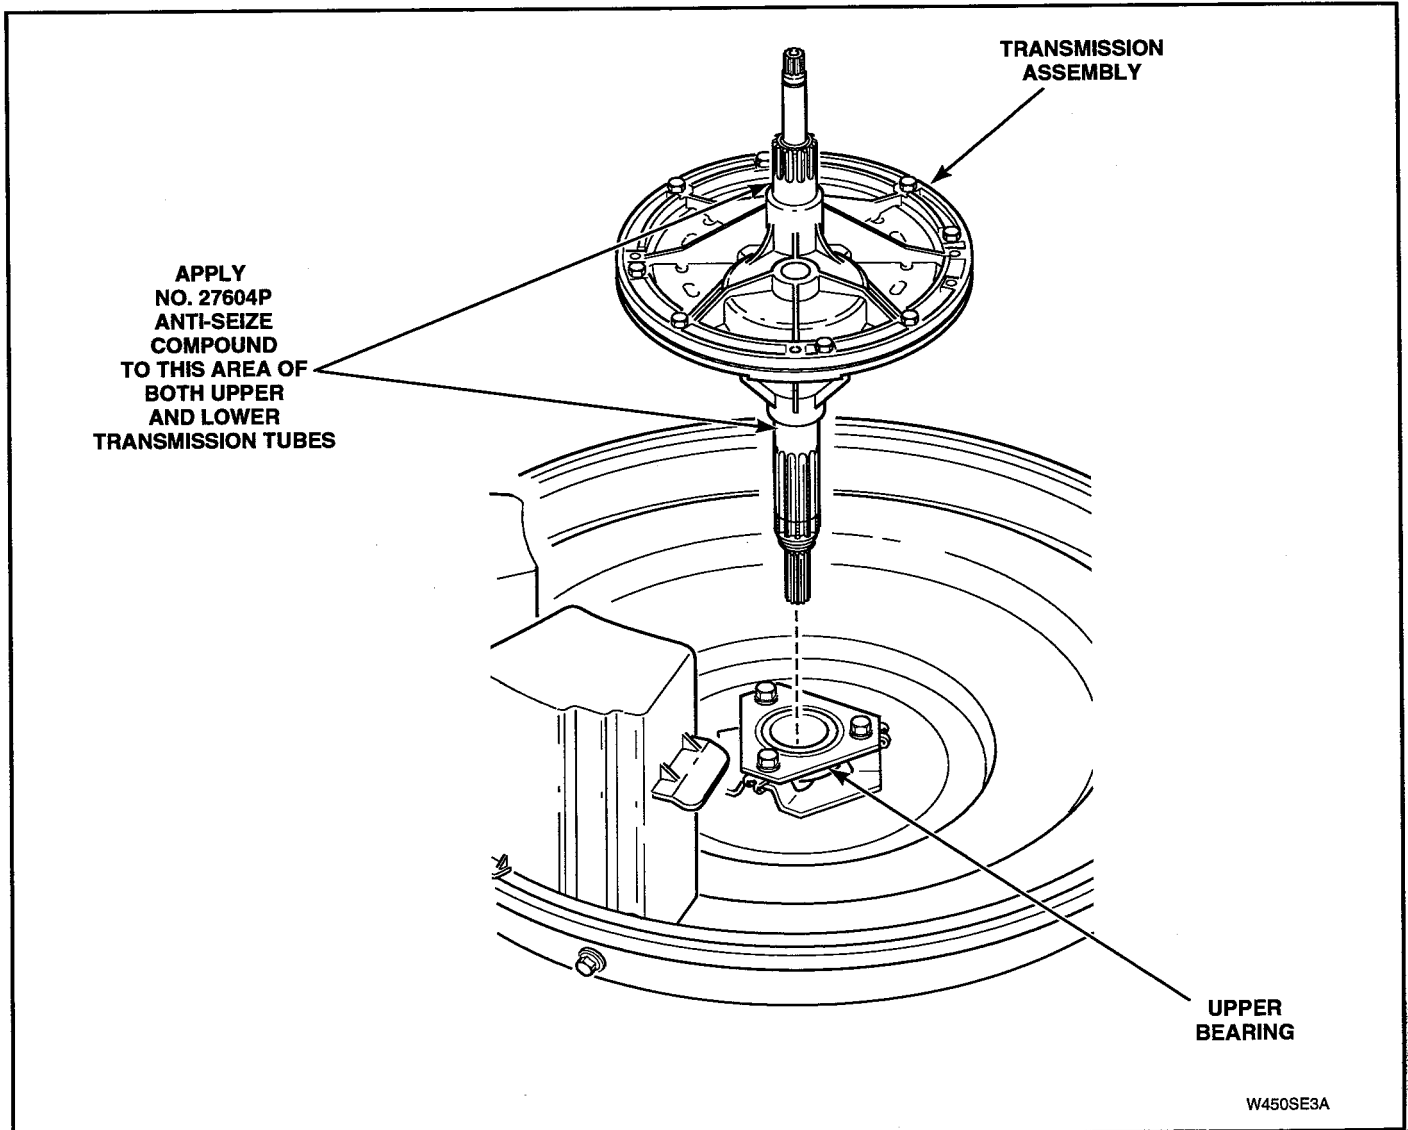

Figure 5-37
**NOTE:** When installing lower bearing, weldment assembly and brake assembly, apply No. 27604P Anti-Seize Compound to area of transmission tube that will be contacting bearing. See Figure 5-37.
**IMPORTANT:** When replacing or reinstalling transmission assembly, it is important that No. 27604P Anti-Seize Compound be applied to area of the transmission tubes where they will be contacting upper and lower bearings. See Figure 5-37.
- q. Apply Anti-Seize Compound, No. 27604P, to smooth area of both transmission tubes that will be contacting upper and lower bearings. See Figure 5-37.